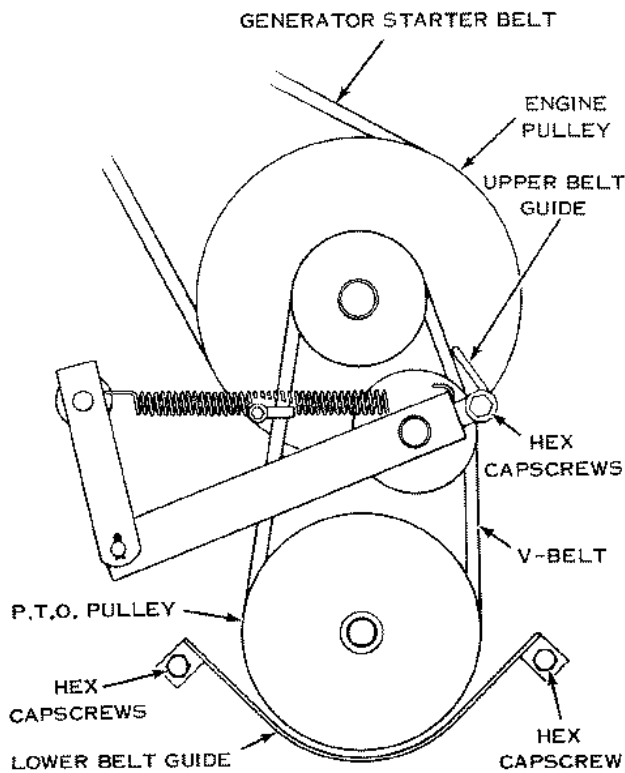

Figure 19
3. With the P.T.O. lever still in the ON position, loosen the hex capscrew which secures the upper belt guide shown in Figure 19. Adjust upper belt guide for a 1/8 to 1/4 inch clearance between belt and belt guide. Tighten hex capscrew securely.
P.T.O. BELT ADJUSTMENT (See Figure 19.)